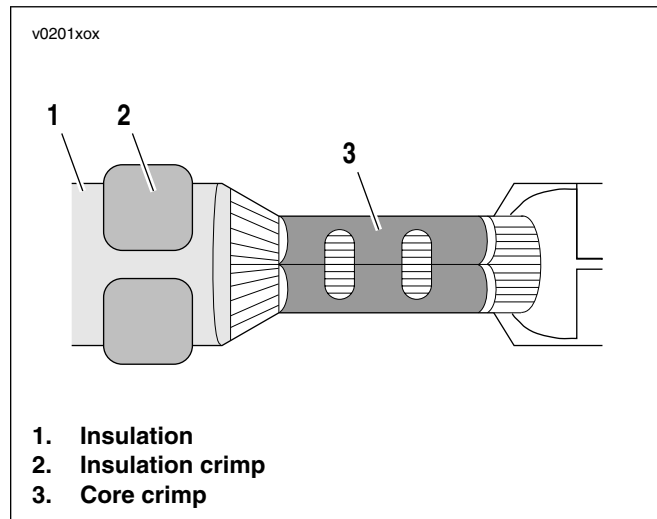

Figure 5-27. Inspect Core and Insulation/Seal Crimps
- See Figure 5-27. Inspect the quality of the core (3) and insulation/seal (2) crimps. Distortion should be minimal.